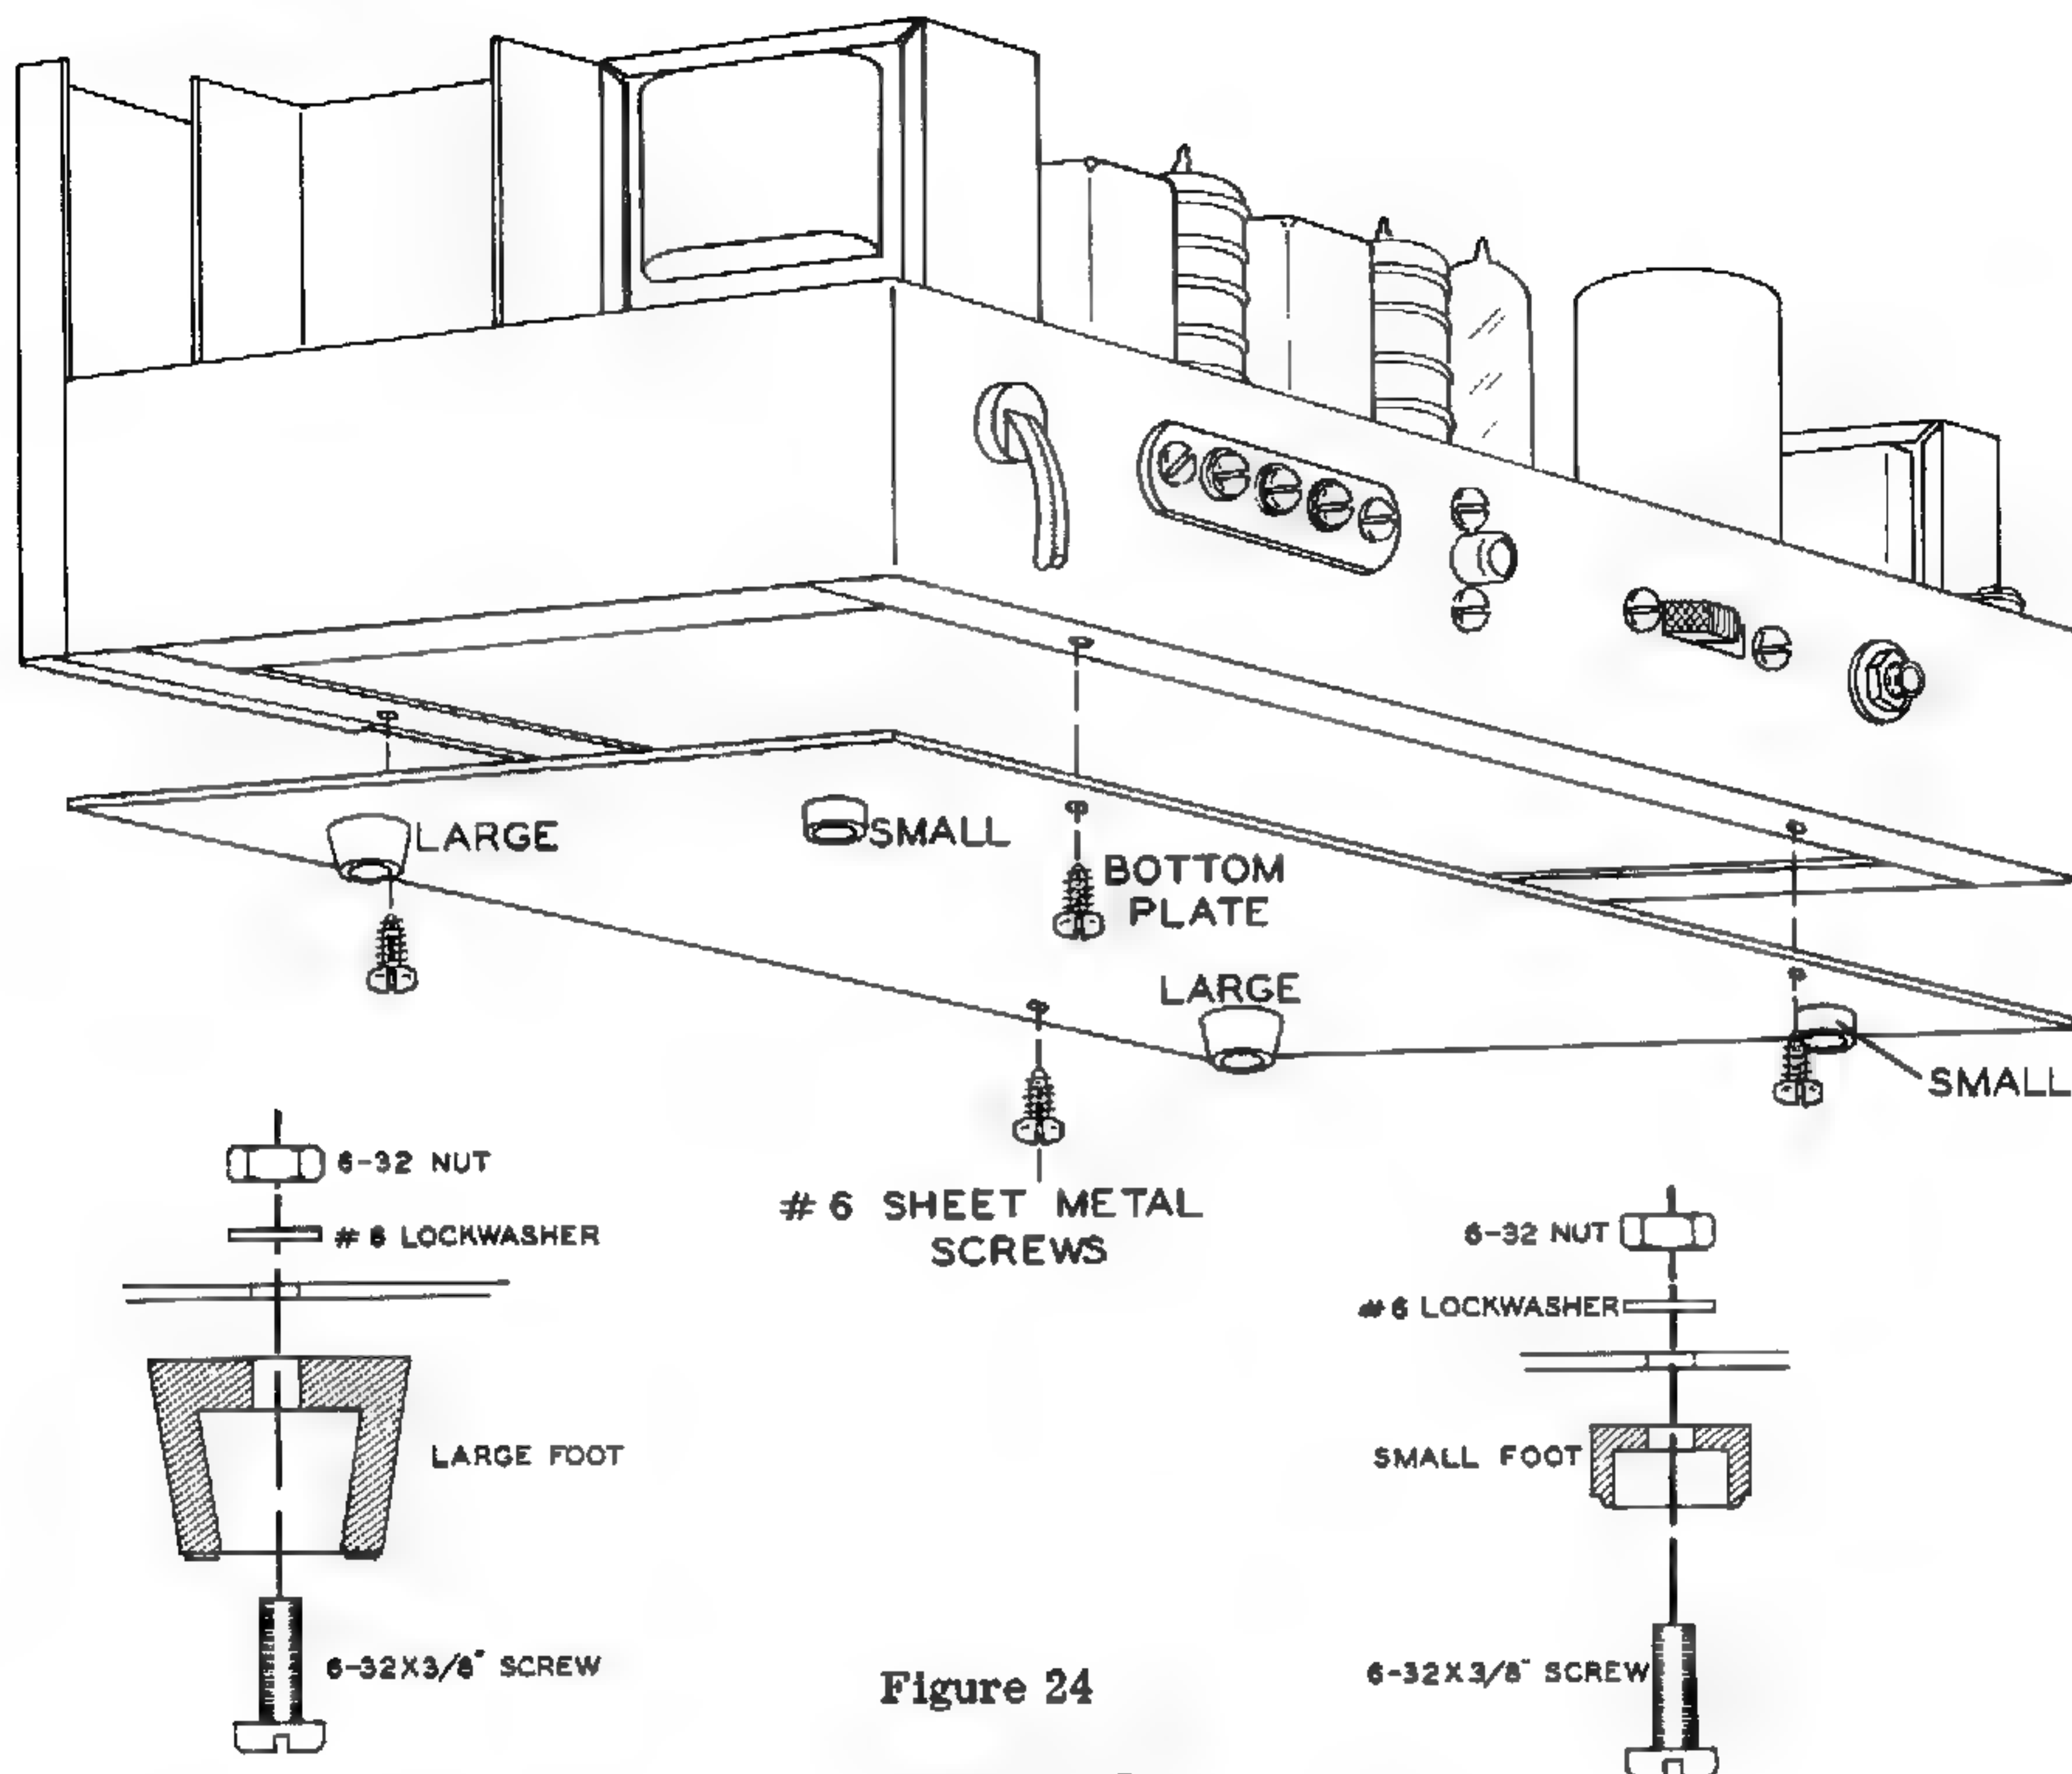

Figure 24
- ( ) Referring to Figure 24, install the two large tapered feet in the holes toward the front edge of the bottom plate. Use two 6-32 x 3/8" screws, #6 lockwashers, and 6-32 nuts.